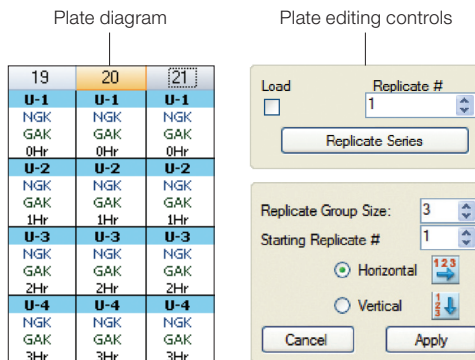

Fig. 3. Replicate Series editing window opens in the plate editing controls.
To designate a set of replicate wells, highlight the wells and type or choose a replicate number in the Replicate # box in the plate editing controls (Figure 3). Alternatively, to assign replicate numbers to several well subsets at once:
1. Select wells in the plate diagram and click **Replicate Series**. The Replicate Series editing window opens (Figure 3).